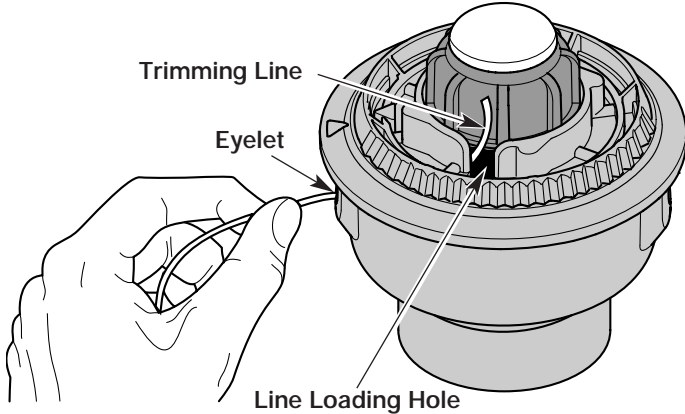

Fig. 37
3. Pull old line out of the line loading and line locking holes (Fig. 37 and 38).
4. Insert a piece of trimming line straight into one of the two eyelets in the outer spool. Push it up through the line loading hole in the inner reel (Fig. 37). Do not bend the line when inserting it into the eyelet.